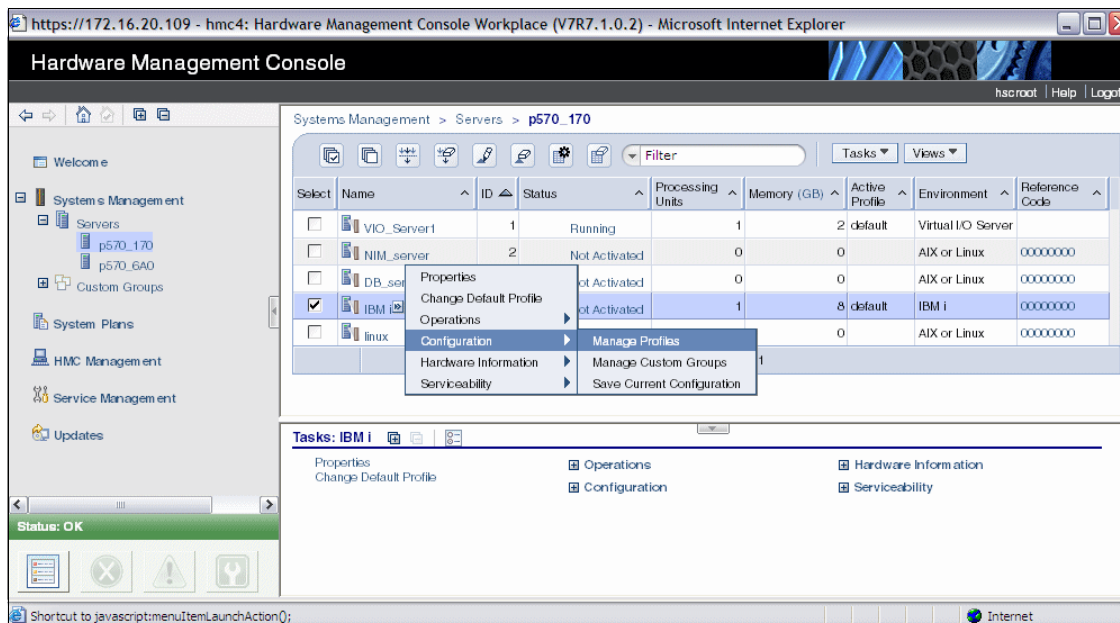

Figure 16-19 Change profile to add Virtual Fibre Channel client adapter
- a. Select the virtual I/O client partition on which the Virtual Fibre Channel client adapter is to be configured. Assuming the partition is not activated change the partition profile by selecting **Configuration** → **Manage Profiles** as shown in Figure 16-19.